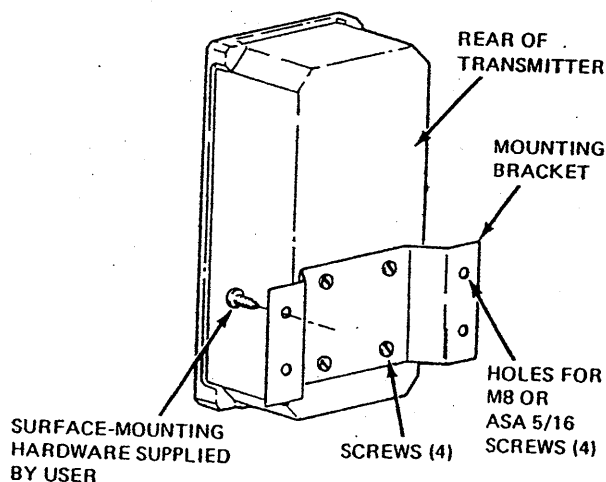

Figure 21.
2. Attach mounting bracket to rear of transmitter with the four screws provided as shown in Figure 21.
3. Turn transmitter to desired orientation against surface; mount to surface using four mounting holes in bracket and required mounting hardware (supplied by user) as shown in Figure 21. Mounting holes in bracket will accept M8 or ASA 5/16 screws.